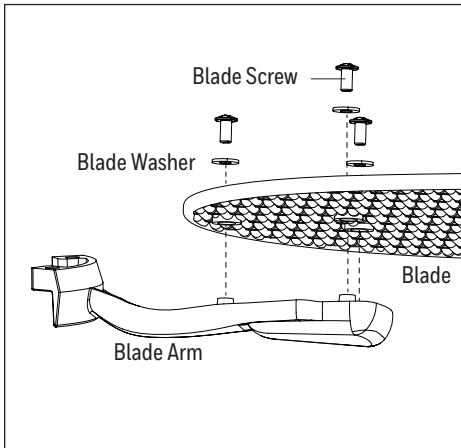

Figure 5.4
- Partially insert the blade screws along with lock washer and blade washer through blade and into the blade arm. Tighten each blade screw starting with the one in the middle (Figure 5.4). Repeat this step for the remaining blades and blade arms.